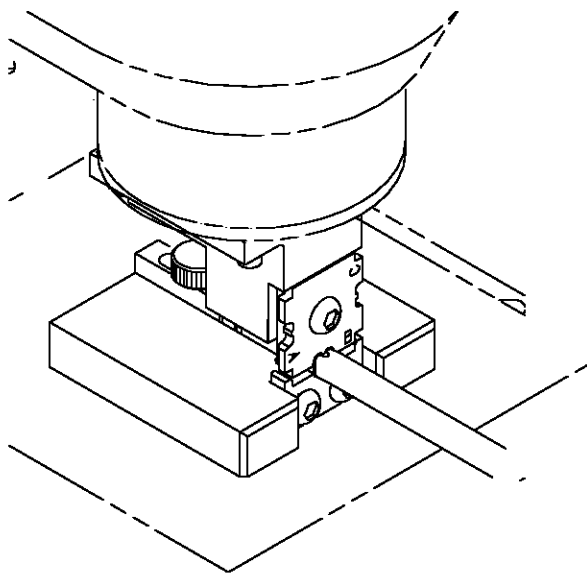

Figure 7
6. Lower the arbor frame assembly ram to crimp metal backshell onto cable (Figure 7).